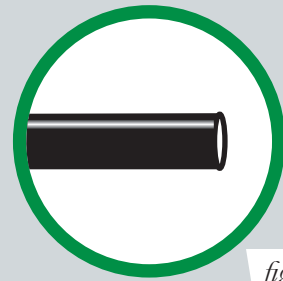

fig. 10
When cutting air lines, use a sharp knife or a hose cutter and make clean, square cuts (Fig. 10). Do not use scissors or wire cutters because these tools may deform the air line, causing it to leak around fittings. Do not cut the lines at an angle.
- a. Check the air line connection by deflating the spring and removing the line by pulling the collar against the fitting and pulling firmly on the air line. Trim 1" off the end of the air line. Be sure the cut is clean and square (see Fig. 10). Reinsert the air line into the push-to-connect fitting.